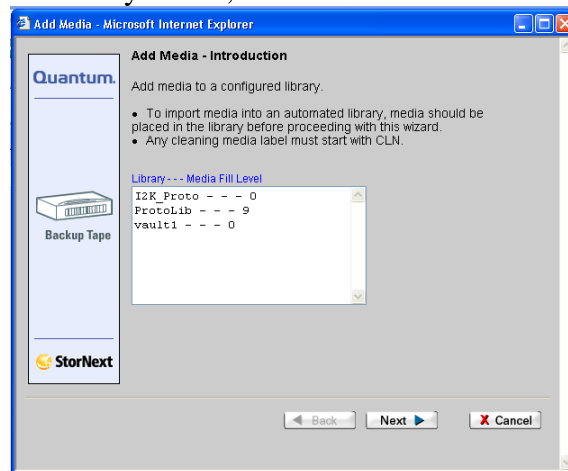

Figure 14.5-1. Add Media Page
- 3 Place the Media in the Library. Select Config-Add Media from the StorNext Home page. The Add Media – introduction screen will appear (Figure 14.5-1).